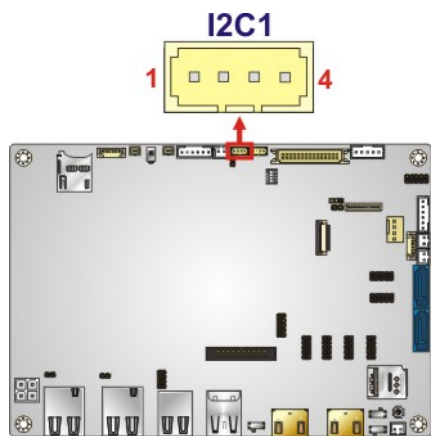

Figure 3-13: I²C Connector Location
- CN Location: See Figure 3-13